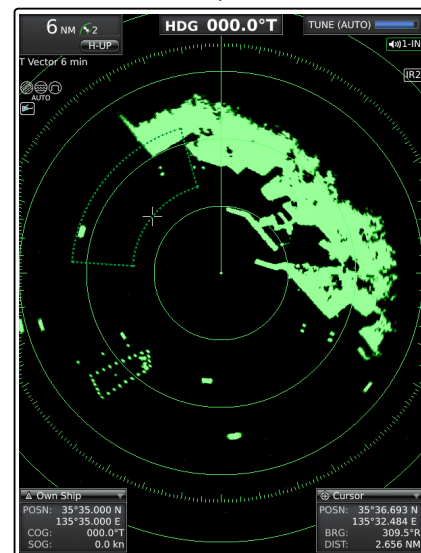

Fig. 2
- ④ Push [◀] or [▶] to adjust an angle and push [▲] or [▼] to set the distance of the alarm zone.
- ⑤ Push [ALM]/[报警] to set the alarm zone and activate the alarm function.
- ⑥ If a target comes into or goes out of the alarm zone, an alarm sounds.
- ⑦ To deactivate the alarm function, push [ALM]/[报警] several times.
- ⑧ To activate the alarm function again with the same programmed zone, push [ALM]/[报警].
- “◀▶)” and the preset alarm zone are displayed. (Fig. 2)